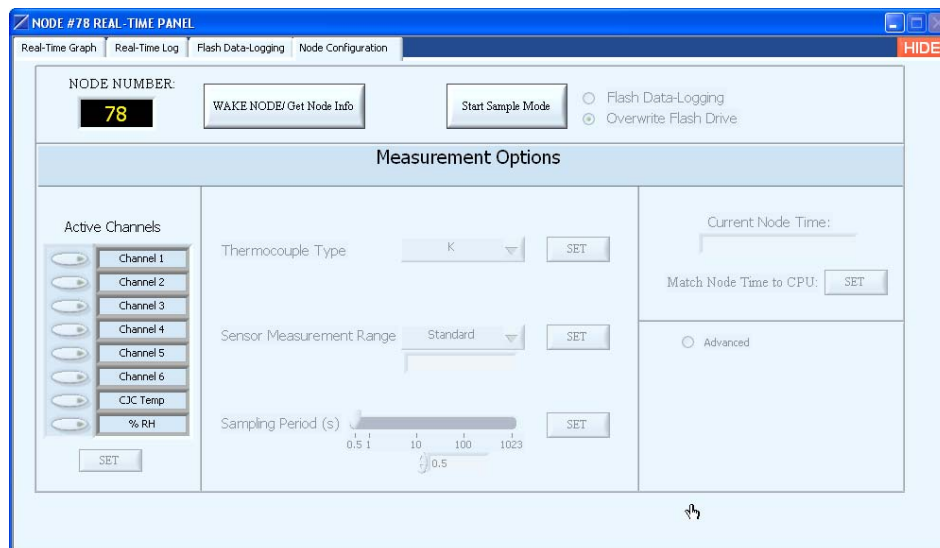

Figure 6
- Click the Node Configuration tab and the screen in **Figure 6** will appear.